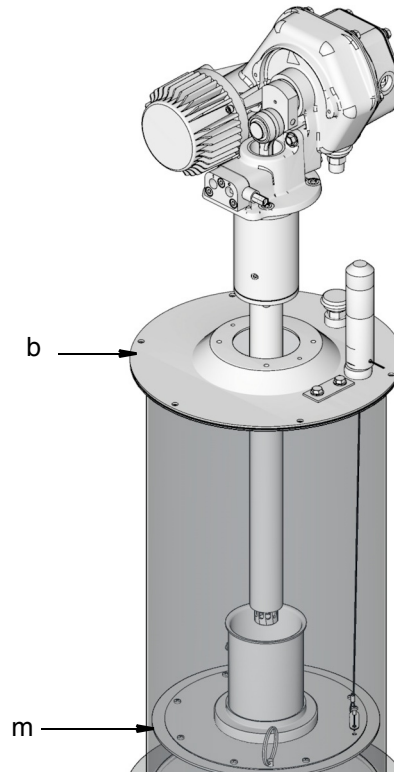

FIG. 10
16. Slide the pump down-tube through hole in the center of the reservoir cover (b) and hole in the center of the follower plate (m) as shown in FIG. 10.